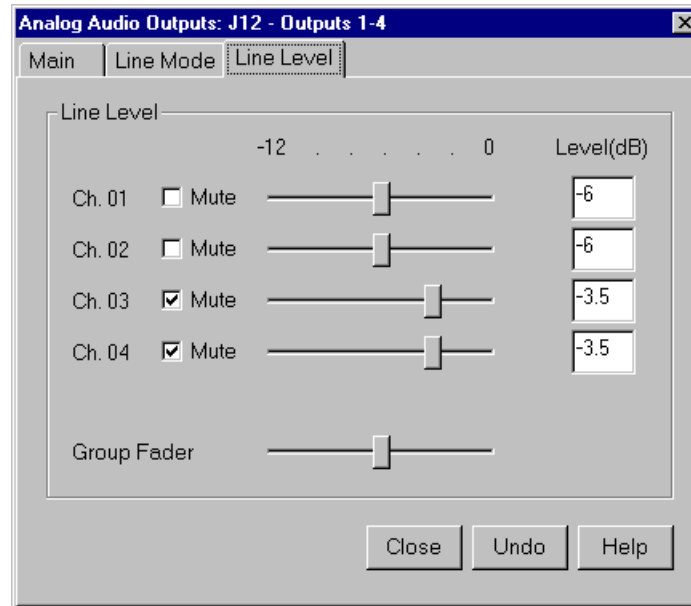

Figure 39. Analog Audio Outputs dialog box, Line Level tab
1. In the Analog Audio Output dialog box, click the Line Level tab (Figure 39).